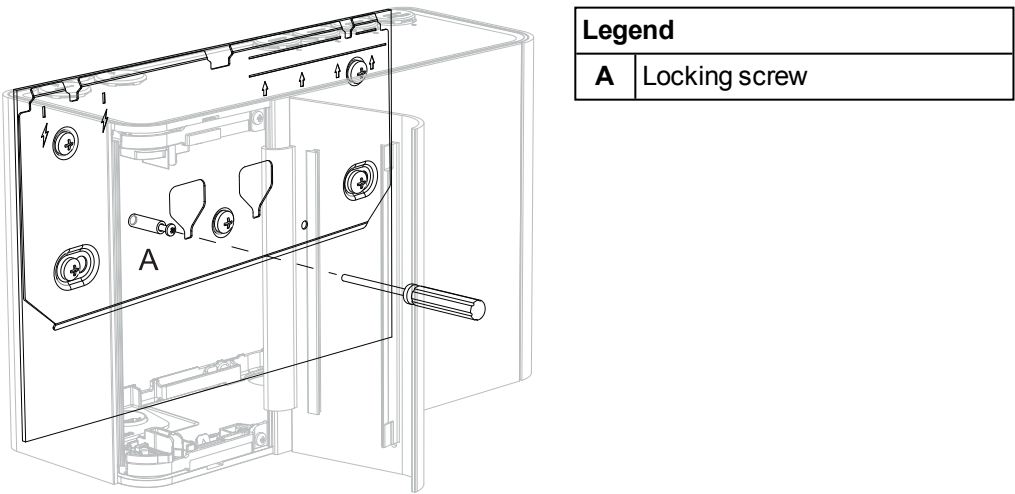

Figure 4-22: Locking Screw
7. Open the door on the front of the detector (Figure 4-22). Refer to Section 7.2 on page 74 for further information on how to open the door.
8. Insert and tighten the locking screw (A). This secures the detector to the mounting bracket.